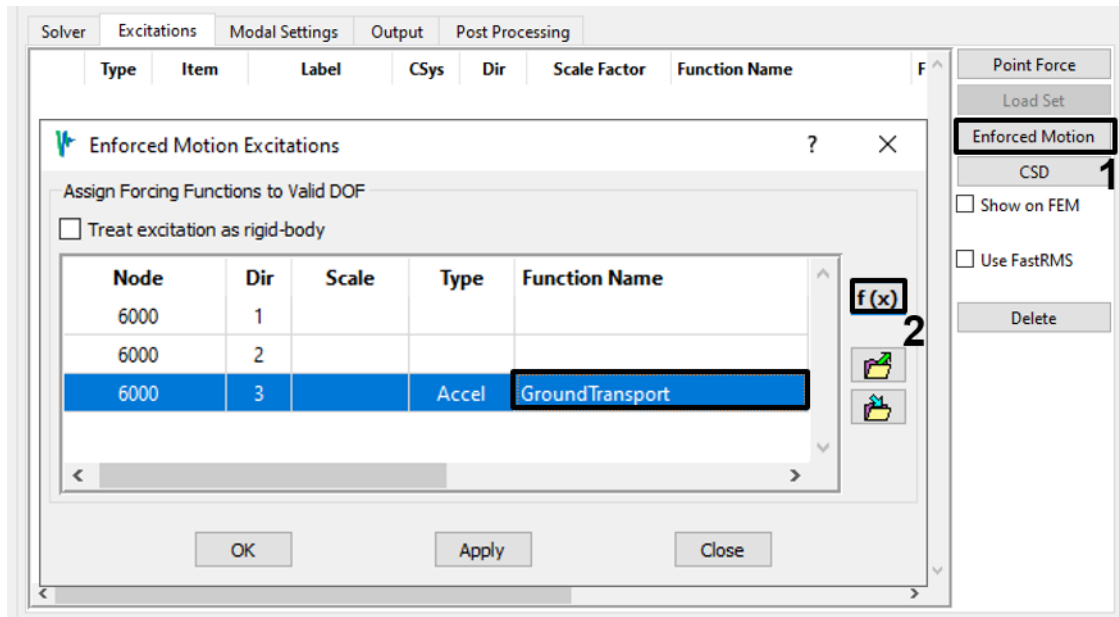

Figure 4-41. Select enforced motion, select Z-translation, and then bring up the Function Manager.
- a. From the *Excitations* tab, bring up the *Enforced Motion* dialog (Figure 4-41). The only DOF available are those requested on the USET U2 card in the Nastran input file, which in this case are the translations of node 6000, the independent node of the base rigid element. Select Z-translation for excitation and then click the **f(x)** button to bring up the Function Manager.